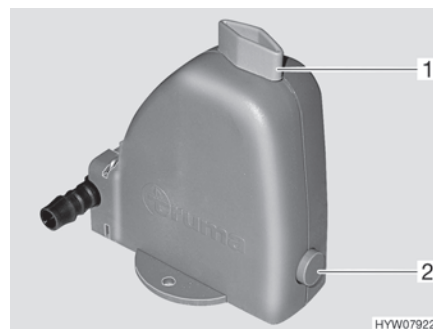

Fig. 60 Safety/drainage valve
The heater is equipped with a safety/drainage valve (Fig. 60). The safety/drainage valve prevents water for the production of hot water from freezing, when there is frost and the heater is not switched on.
- Close the safety/drainage valve. Turn the knob (Fig. 60,1) perpendicular to the safety/drainage valve and push the push button (Fig. 60,2) in.
- Open the safety/drainage valve. To do this turn the knob (Fig. 60,1) parallel to the safety/drainage valve. The push button (Fig. 60,2) jumps out. The domestic water container is emptied to the outside through the safety/drainage valve.